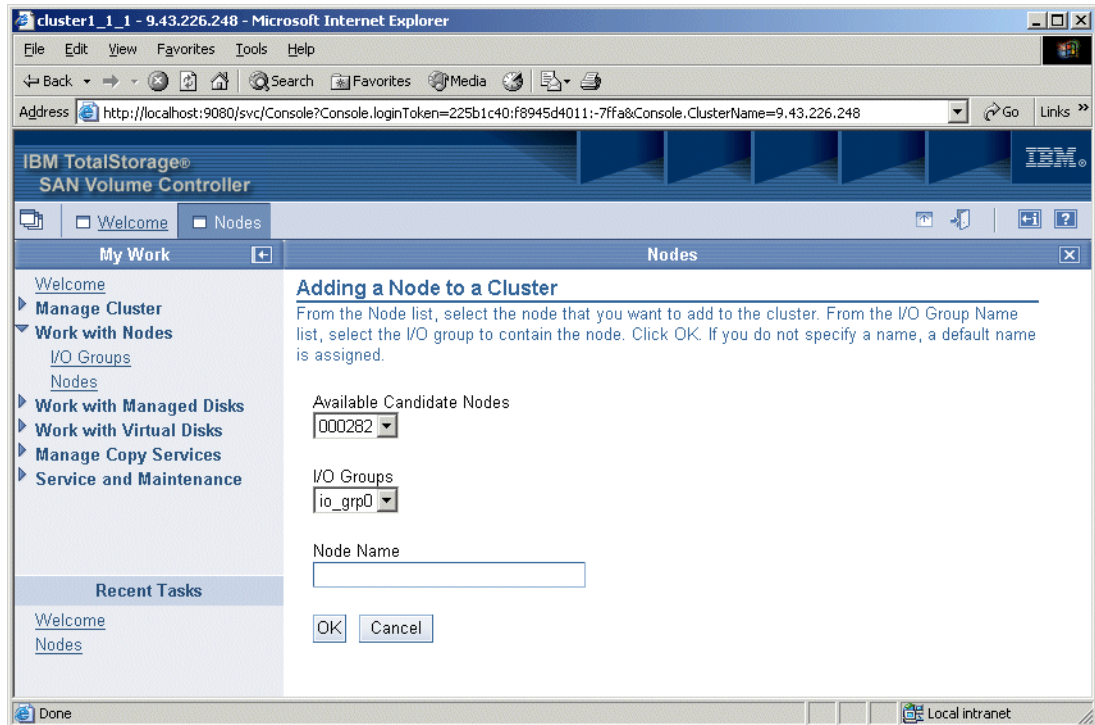

Figure 6-12 Adding a Node to a Cluster panel
7. The next panel (Figure 6-12) displays the available nodes. Select the node. Associate it with an I/O group and provide a name (for example, ITS0\_node2). Click **OK**.